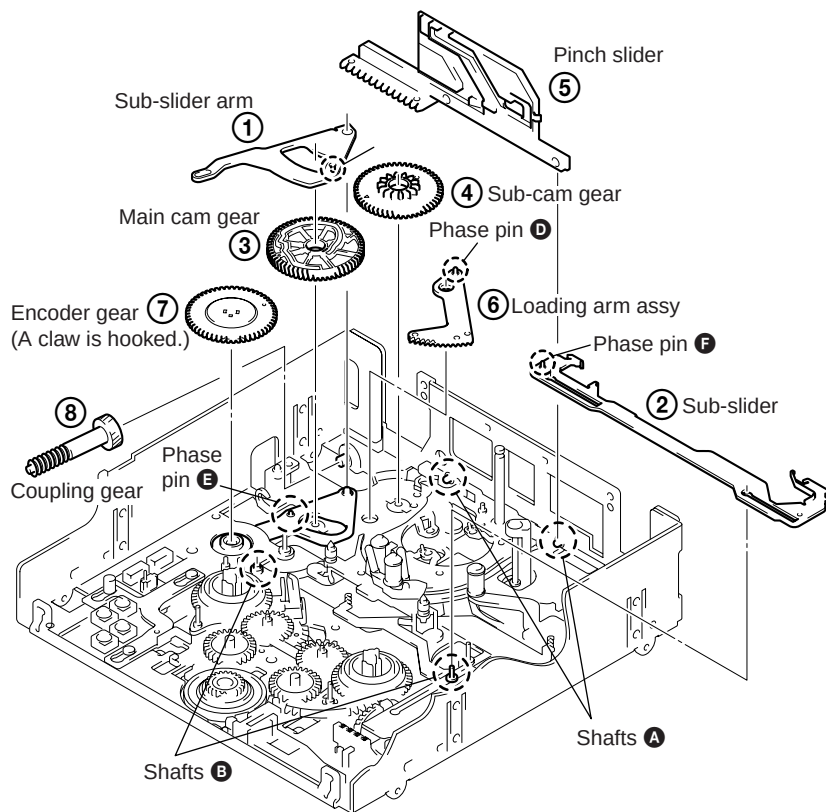

Fig. 1
- ⑤ Attach the adjuster of the TG band to shafts **C** and **D**.
- ⑥ Fix the TG band and TG arm with new stop washers. When attaching the TG arm, do not forget to attach the compression coil spring (TG). (Fig. 1)